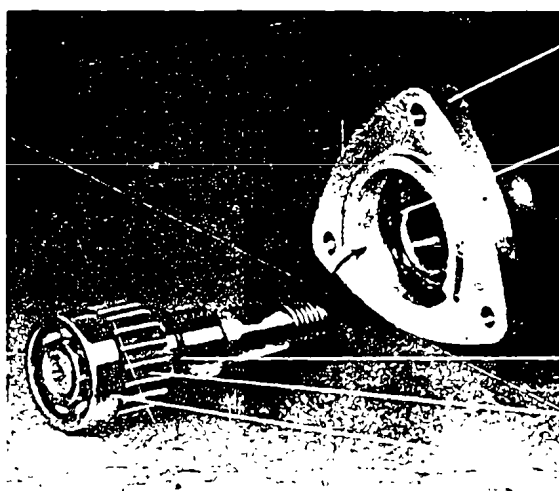

Fig. 27 Governor shaft and bearing cover
2.3. 5. If the gear on governor shaft (170) is damaged it must be removed. To do this press governor shaft from bearing cover (168) (Fig. 27). Draw deep-groove ball bearing (171) from governor shaft and remove circlip (174). If necessary, remove inner circlip (173) from bearing cover, using suitable circlip pliers, and press out shoulder contact bearing (172).